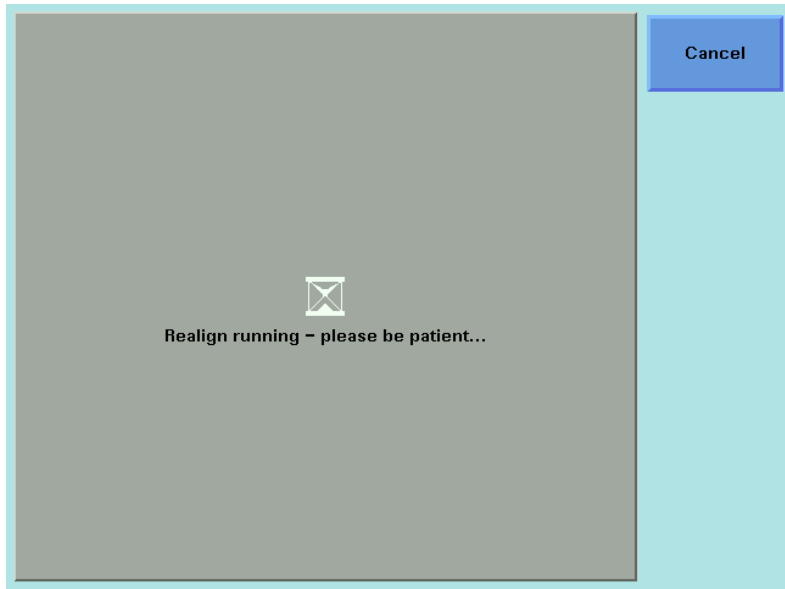

Figure 95 Realign Screen
- 2 Move to <Realign> and press [OK]. You will see the screen in Figure 95 on page -168.